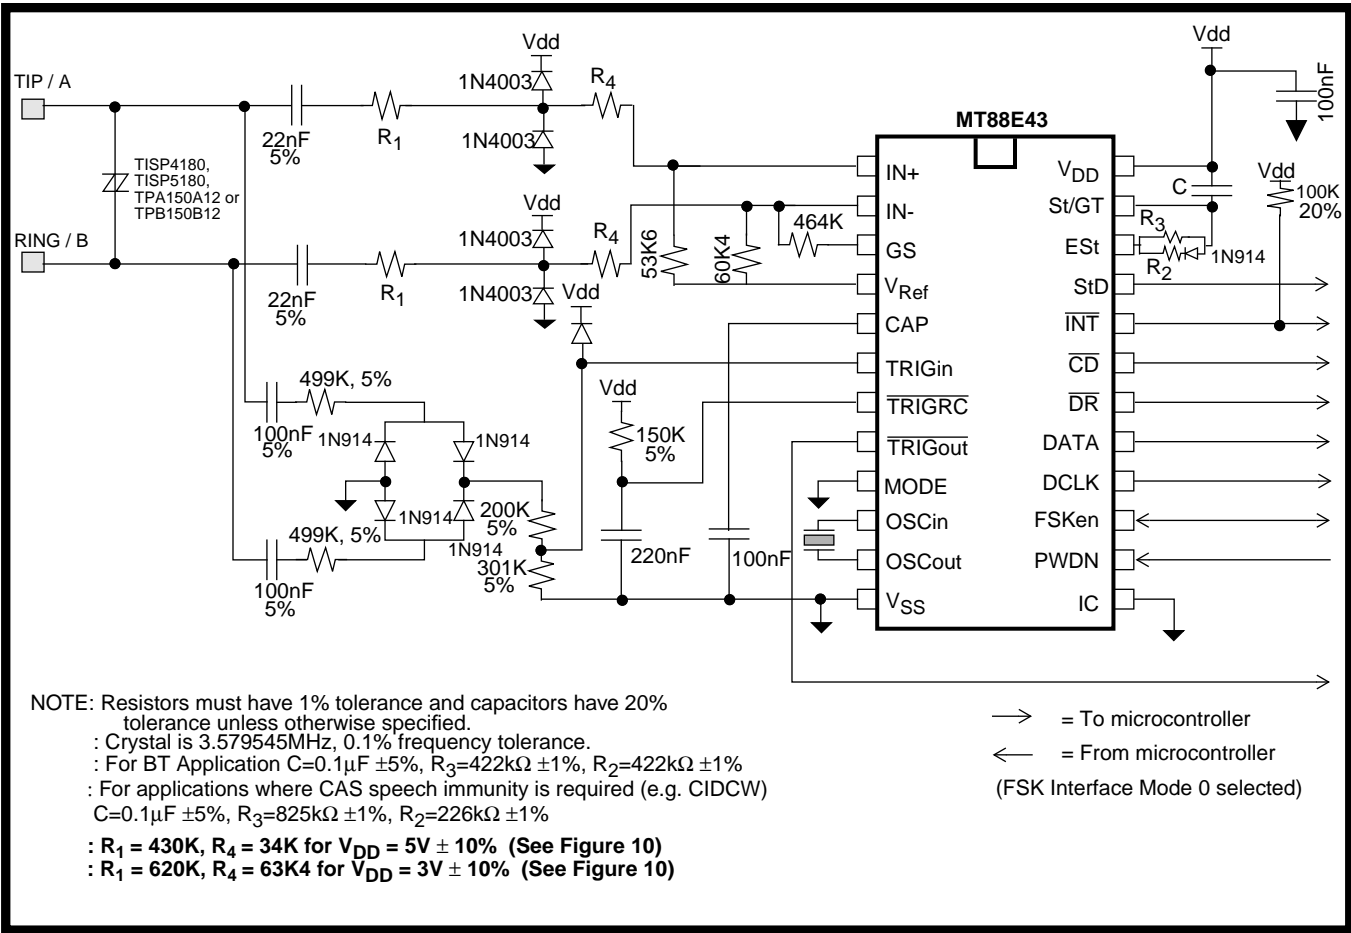
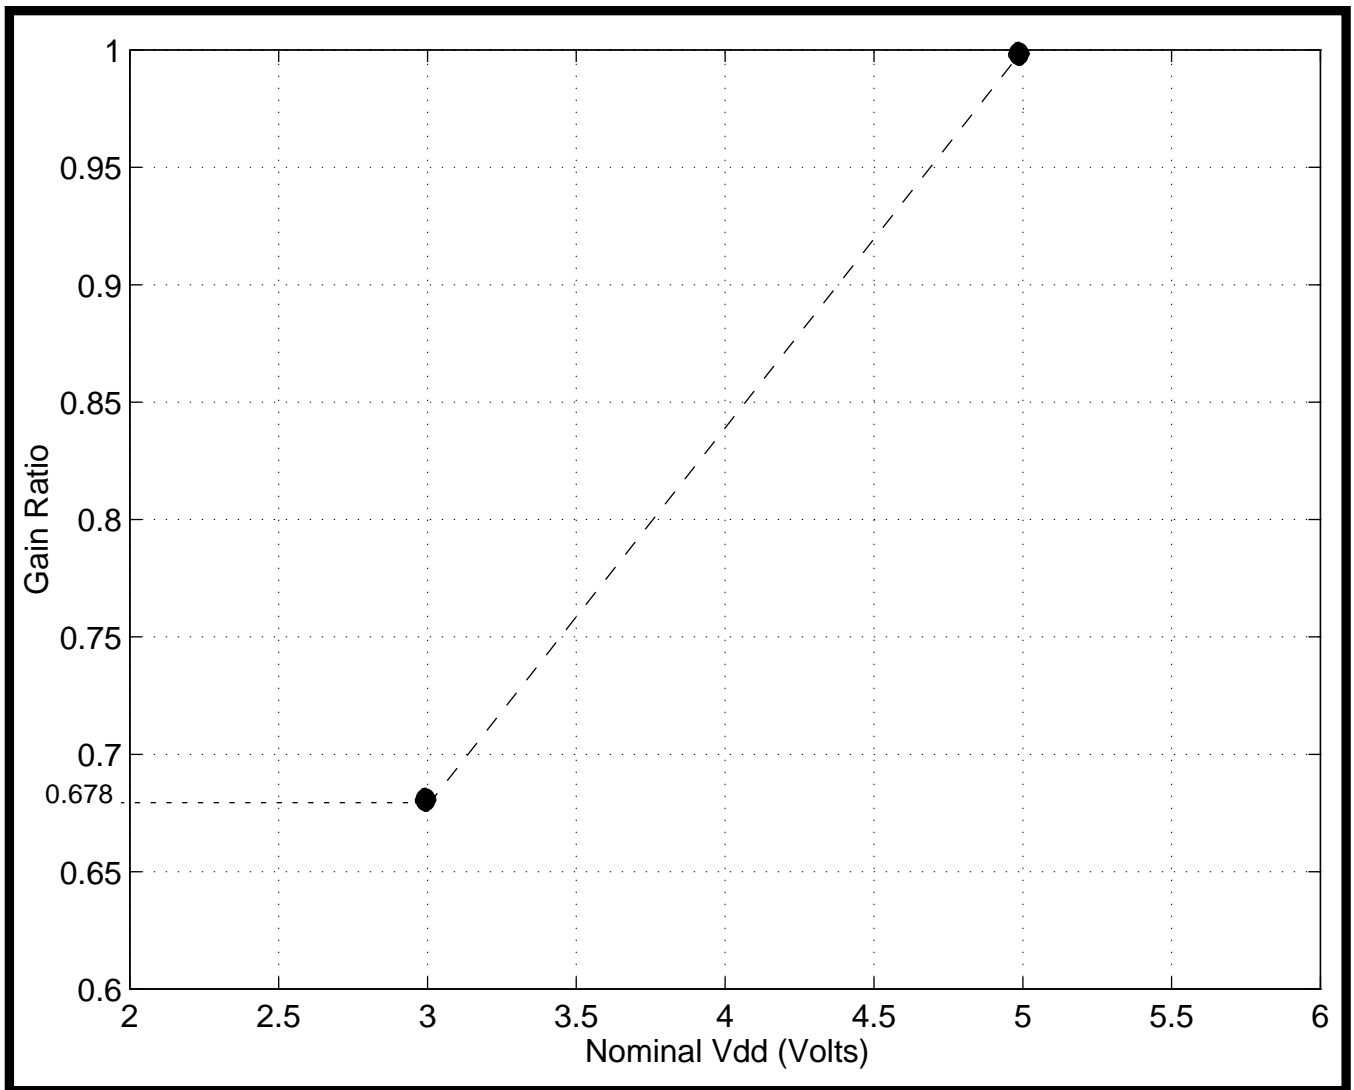

Figure 9 - Application Circuit
Figure 10: Gain Ratio as a function of Nominal Vdd
Figures 9 and 11 ($R2=R3=422K$, $C=0.1\mu F$) will meet the BT timing requirements.
$(A_{Vdiff}) = R5/R1$ (see Figure 9,10,11)
The circuits shown in Figures 9 and 11 are application circuits for the MT88E43. As supply voltage (V_{DD}) is decreased, the threshold of the device's tone and FSK detectors will be reduced. Therefore, to meet the BT or Bellcore tone reject level requirements the gain of the internal opamp should be reduced according to the graph in Figure 10. For example when V_{DD}=5V (+/- 10%), R₁ should equal 430kΩ and R₄ should equal 34kΩ; and if V_{DD}=3V (+/- 10%) R₁ should equal 620kΩ and R₄ should equal 63.4kΩ. Resistors R₁ and R₄ are shown in Figures 9 and 11.
The circuit shown in Figure 9 illustrates the use of the MT88E43 in a proprietary system that doesn't need to meet FCC, DOC, and UL approvals. It should be noted that if glitches on the tip/ring interface are of sufficient amplitude, the circuit will falsely detect these signals as ringing or line reversal.
Note: In the application circuits shown in Figures 9 and 11, the Gain Ratio of MT88E43 opamp is
- With gain setting as shown in Figure 10. Production tested at $3V \pm 10\%$, $5V \pm 10\%$.